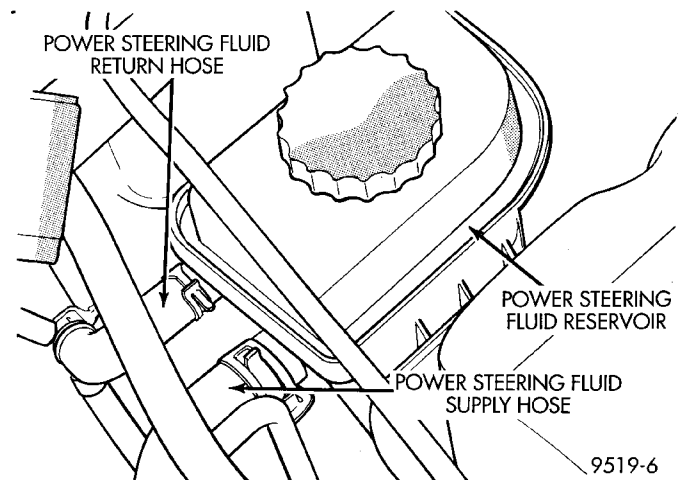

Fig. 33 Power Steering Fluid Hoses At Reservoir
(6) Remove the power steering fluid return and supply hose from the power steering fluid reservoir (Fig. 33).
(2) Install the power steering fluid return and supply hose, on the power steering fluid reservoir fittings (Fig. 33). **Be sure both hose clamps are installed on hose past upset bead on power steering reservoir fittings.**